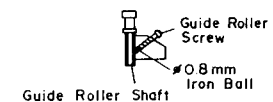

Figure 32-1
1. Loosen the guide roller fixing screw with Phillips head precision screwdriver, and half tighten it so that the guide roller can be rotated normally counterclockwise and moved up and down (Fig. 32-1).